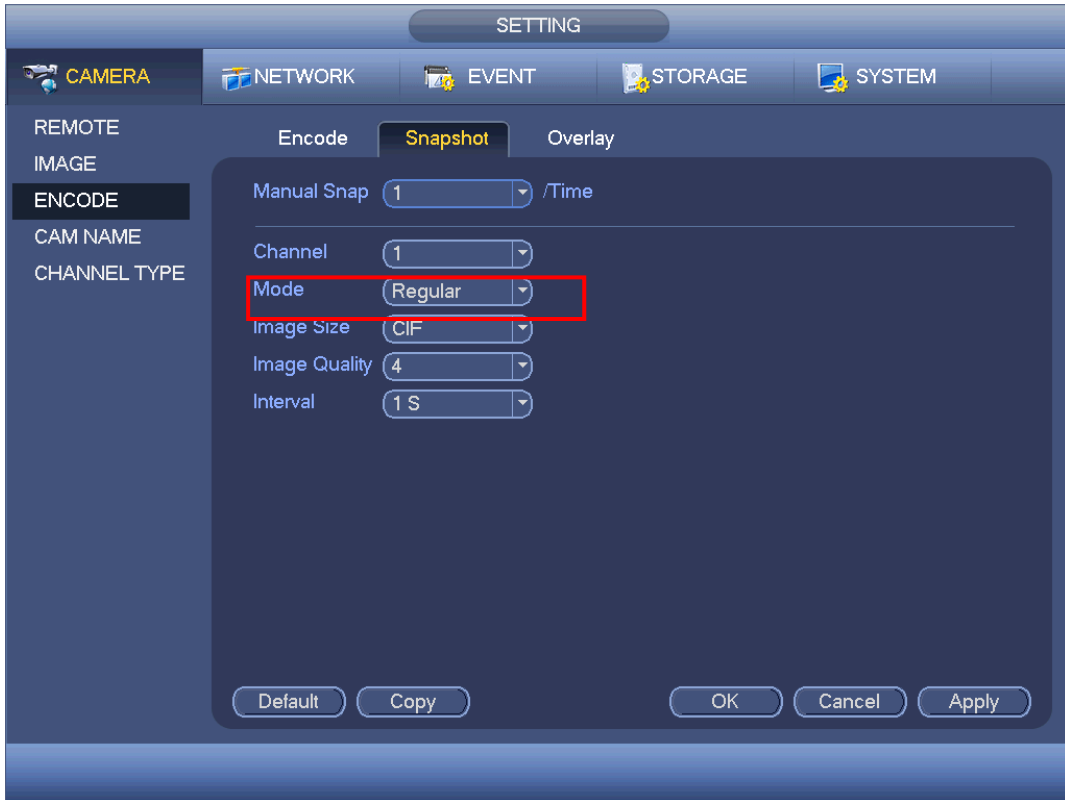

Figure 4-176
- In main menu, from Setting->Camera->Encode->Snapshot interface, here you can input snapshot mode as regular, size, quality and frequency. See Figure 4-176.